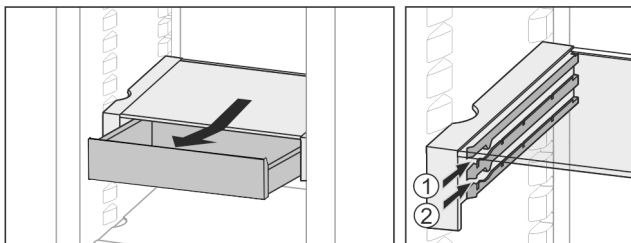

Fig. 31 \*
- ▶ Slide back at the height you want Fig. 31 (1) or Fig. 31 (2).